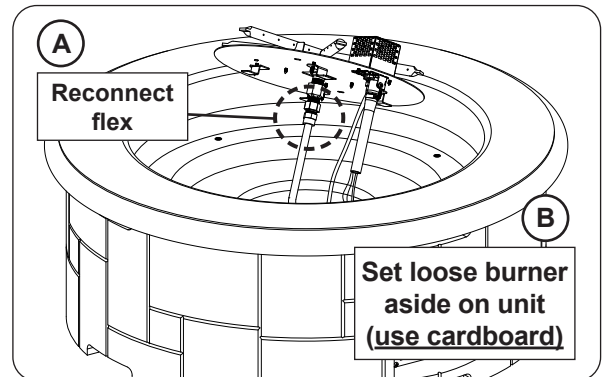

Fig. 31-2 Reconnect flex connector, set burner aside
1. Reconnect flex line coming from the valve to the burner assembly (see Fig. 31-2).